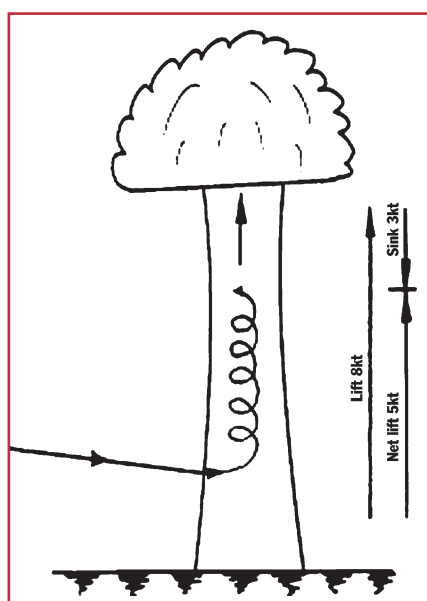

Figure 24: Entering thermal wave
Don't despair if it seems difficult to obtain all of this information, because the trained eye can detect the presence of thermal wave by the shape of the clouds and by the curl-over at its trailing edge (refer to Figure 24). On rare occasions we can even detect a cap of silky smooth clouds forming on top, and if this is the case we can be almost certain that thermal wave conditions exist.
*Going back to Figure 24 we can see that in a glider we are also gaining height but we are doing so at a substantially slower rate compared to the surrounding air. Makes sense, doesn't it?*